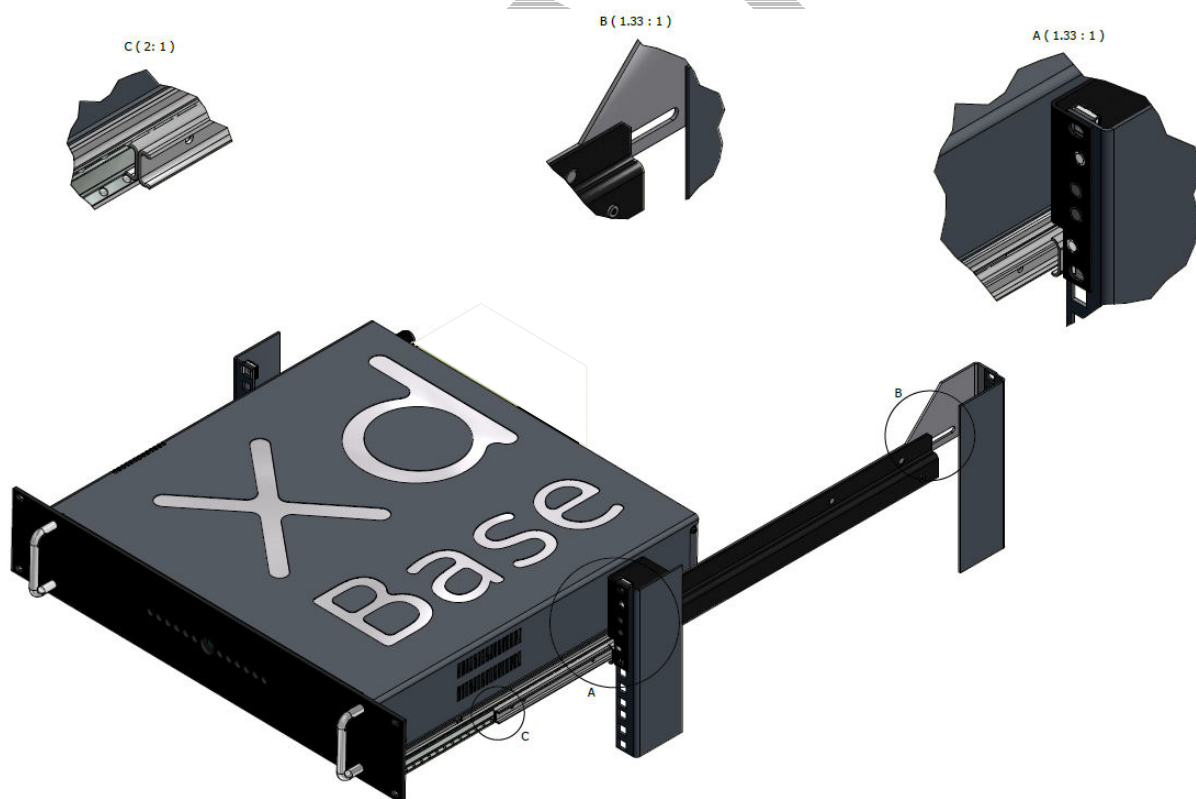

Figure 7. Inserting and securing the base station into the rack.
5. To fit the SDB680 into a rack using rack mount supports, carry out the following (see **Figure 7** below):